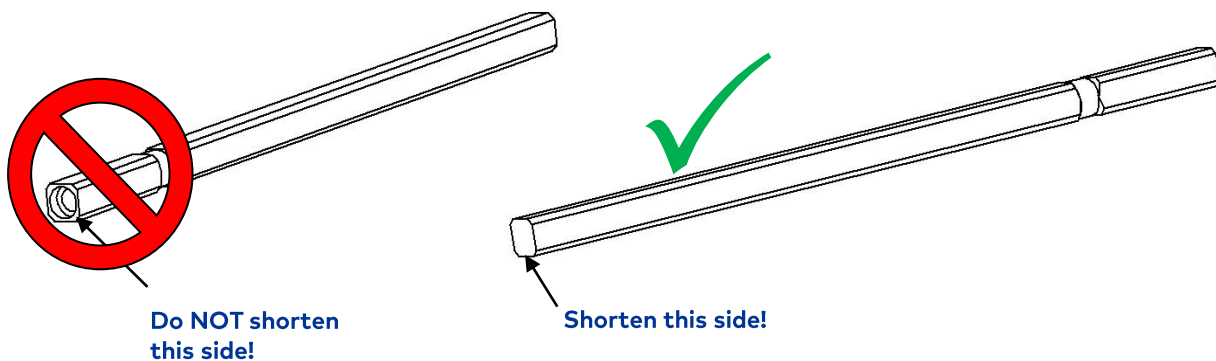

Figure 33: Shortening the drive shaft
Shorten the drive shaft (2) only on the side **not** drilled (see Figure 33)! To shorten it, the drive shaft (2) must be removed from the lock, since otherwise there will be a risk of damaging the lock!